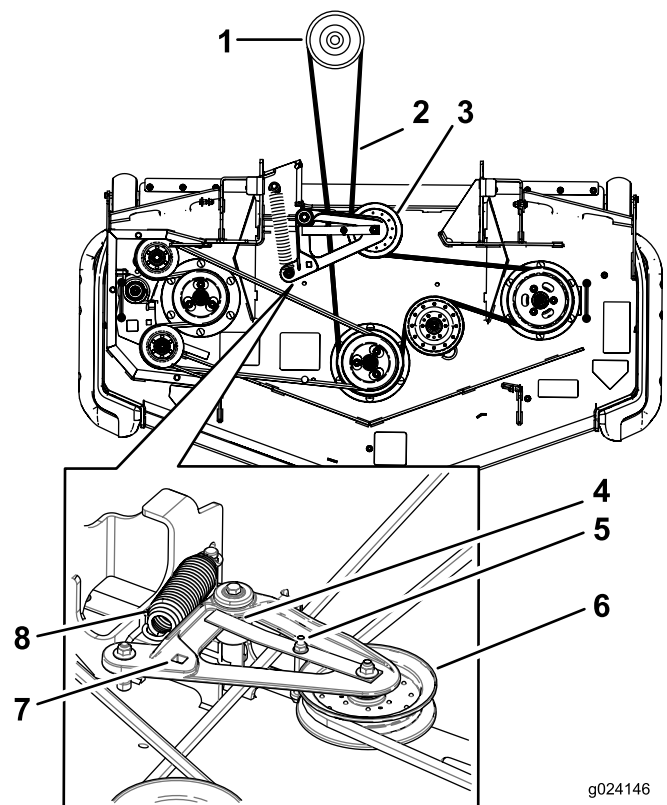

Figure 78
6. Use a ratchet in the square hole in the idler arm to remove tension on the idler spring (Figure 78).
8. Lift up on the belt-guide tab and remove the existing belt (Figure 78).
9. Install the new belt around the mower pulleys and the clutch pulley under the engine (Figure 78).
10. Rotate and ensure the belt-guide tab hits against the pivot hub Figure 78.
11. Using the ratchet in the square hole, install the idler spring (Figure 78).